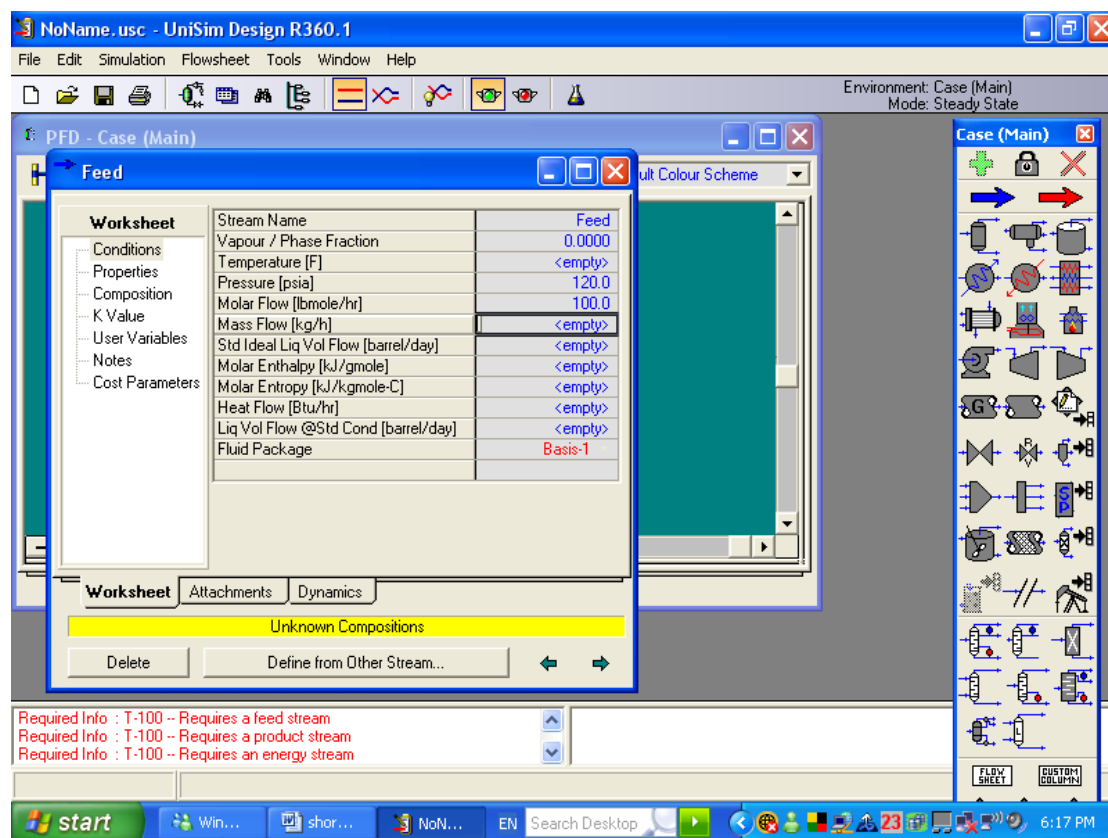

Figure K-13. Snapshot of the Feed window showing the **Worksheet** parameters.
Step 13. Enter the **Stream Name**, **Pressure**, **Molar flow** from **Conditions** menu in the Worksheet of the Feed window as shown in FigureK-13.